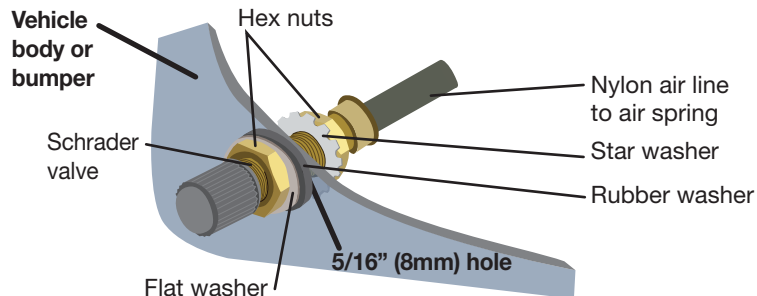

fig. 30
3. Install the Schrader valve in the chosen location (Fig. 30).